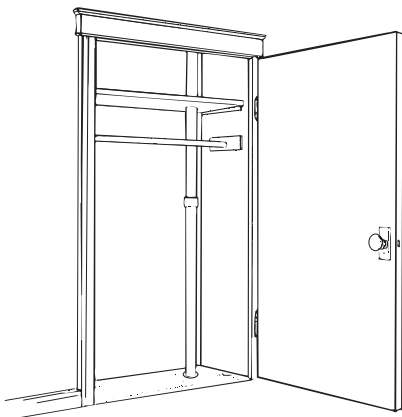

FIGURE 21
**Stacked Closets.** Many homes will have an upstairs closet located directly above a downstairs closet. It is easy to run the tubing from one floor level to another inside these stacked closets. In these installations the tubing is often left exposed inside the closets. See Figure 21.